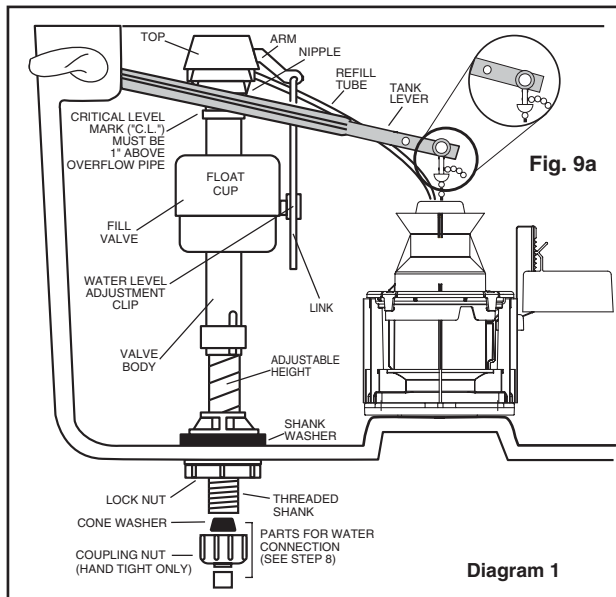
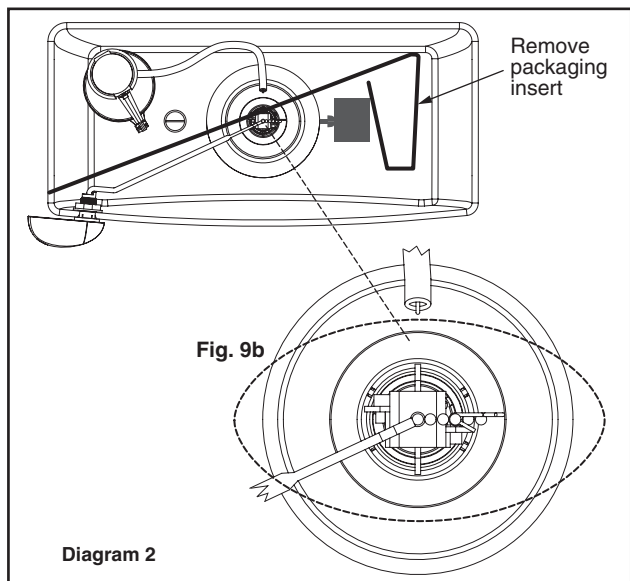
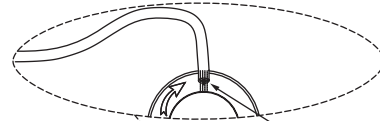

Fig. 9a
Fig. 9b
FIG. 10d
- b. If bowl fails to siphon, an adjustment may be required with the lift chain. Simply remove the bead chain from the retainment clip (see Fig. 9a) and take up slack on the chain, and reinsert on lift rod. Make sure the chain is not too tight and trip lever arm is aligned with center of flush tower, as shown in fig. 9b. Proper adjustment will allow the tower to lift and auto release with the handle held down.
Place the gasket over the tower and slide down past the landing tabs (3) and position into groove at base. Re-install the collar by aligning collar tabs with float ribs and also aligning aux-float pivot with opening in main support ring then carefully snap barbs back in place. Attach the refill hose to tower at location shown (Fig. 10d). Attach the hook to lever arm (Fig. 9a). Turn on water supply. Check valve operation by depressing trip lever.